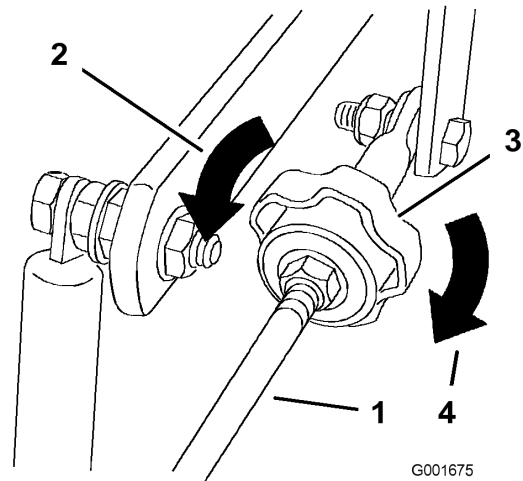

Figure 43
4. To make the machine go right, turn the knob towards the rightside of the machine. Refer to Figure 43.
5. To make the machine go left, turn the knob towards the leftside of the machine. Refer to Figure 43.